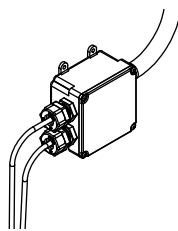

Figure 14
- b. Drill holes and assemble both cord grips for sensor cables. See Figure 14.